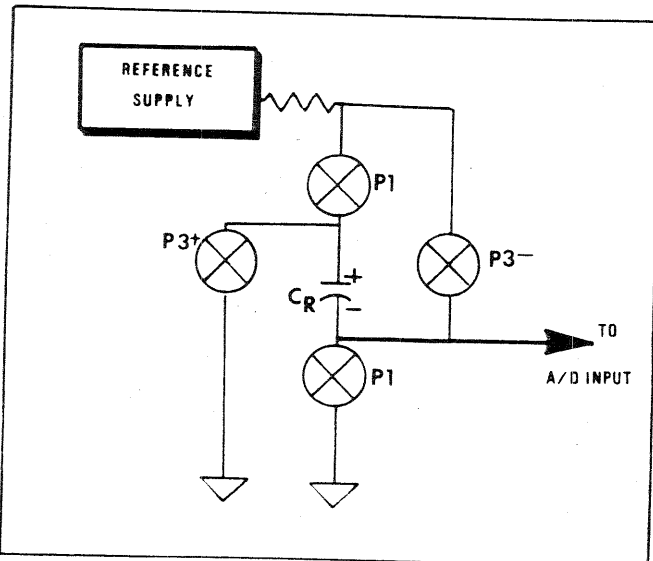

Fig. 1-2. Iso-Polar Referencing, simplified diagram
1.2.2 Iso-Polar Referencing (Figure 1-2)
Figure 1-2 illustrates the technique of isopolar referencing. The reference voltage, adjusted for the scaling required, charges a reference "battery" in the form of capacitor C_R .